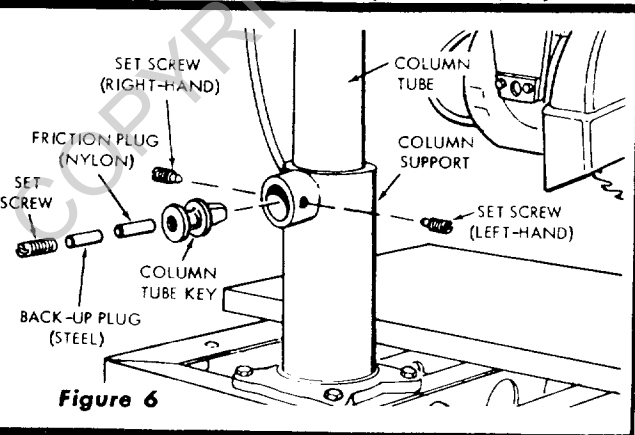

Figure 6
**NOTE:** Before attempting to adjust the column tube key, the function of this adjustment should be understood. Figure 6 is an exploded view of column tube key parts and figure 7 is a sectional view through the column tube support (looking downward) at this loca-
- Loosen set screw in center of column tube key. (See figures 6 and 7.)